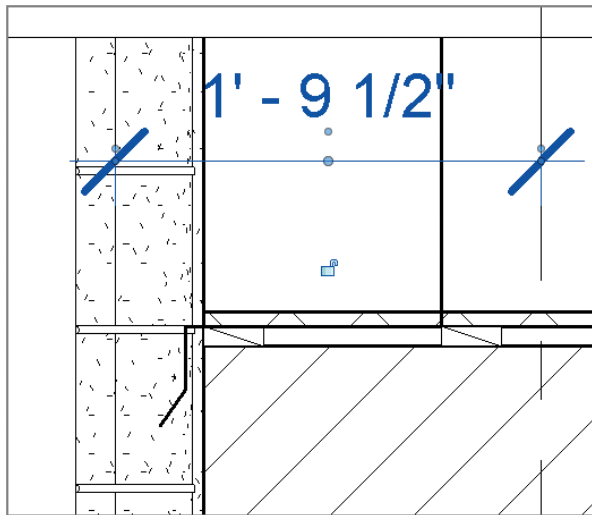

FIGURE 11.20 Adding a dimension string
1. Select the Aligned dimension tool, and place a dimension string from the grid line to the centerline of the wall, as shown in Figure 11.20.